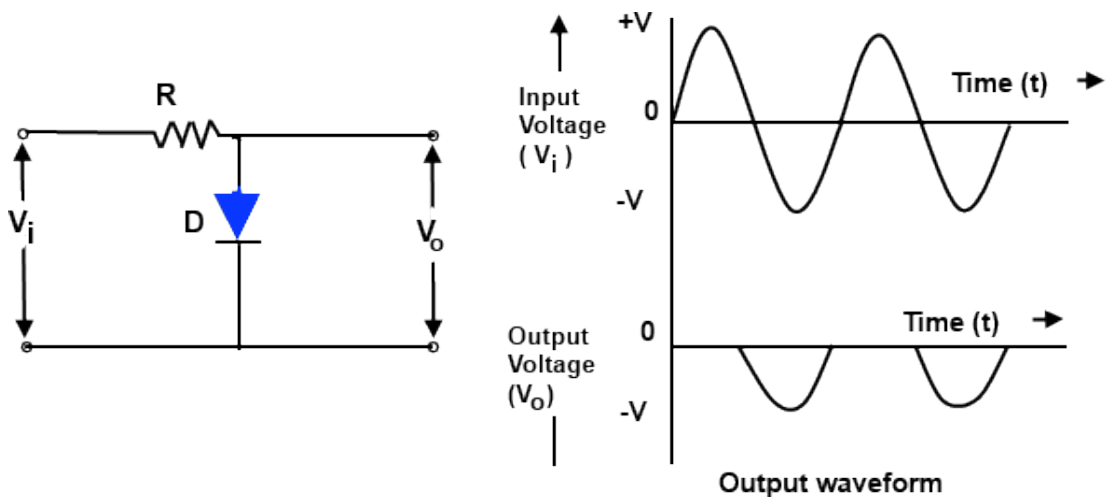

Figure 2.20: Shunt/Parallel Positive Clipper
- Figure 2.20 shows the diode acts: